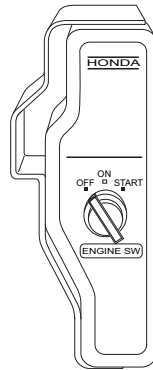

Figure 21 - Engine Switch In OFF Position
3. Turn engine switch to the OFF position (see Figure 21).